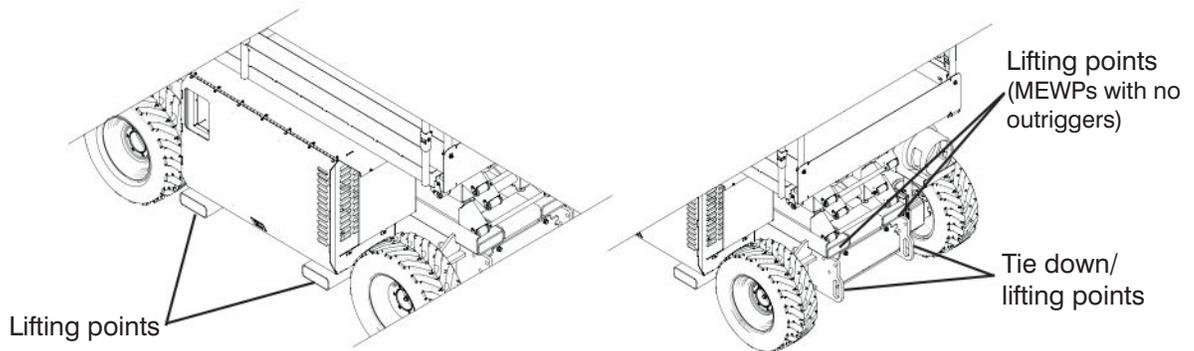

Figure 3-7. Tie Downs/Lifting Points
- The lifting/rigging must be attached to all twelve lifting points as illustrated in Figure 3-7.
When transporting, the MEWP must be secured to the truck or trailer deck. Tie downs are available as illustrated in Figure 3-7.